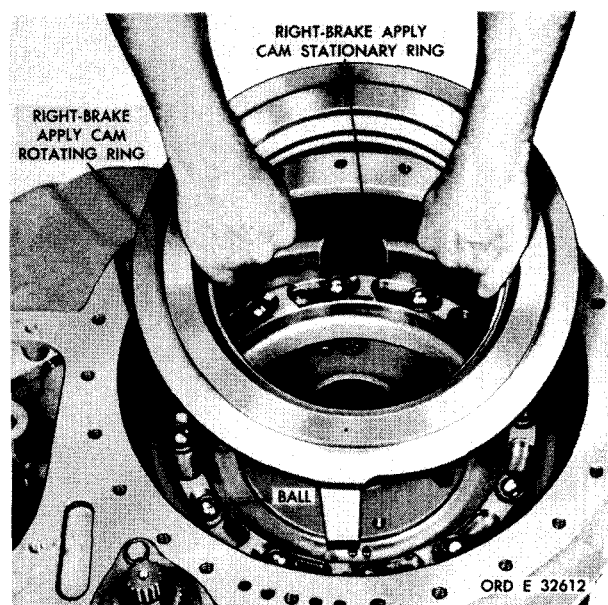

Figure 193. Installing right-brake apply cam rotating ring
z. Position the rear housing on its left side and install 12 steel balls in the right-stationary cam ring (fig. 193).
aa. Install right-brake apply cam rotating ring (fig. 193).